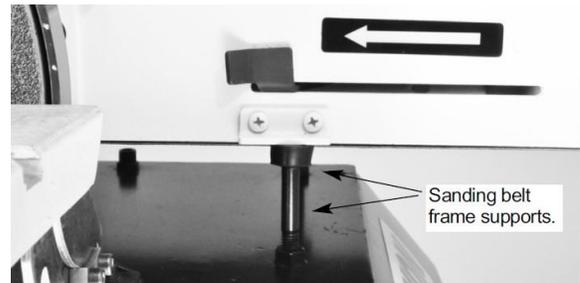

Figure 11
3. In the horizontal position, there are two vertical padded set screws that support the sanding belt frame. These should be checked and adjusted, if necessary, to make sure they both touch the sanding belt frame supports. These screws will help relieve pressure on the casting during work. See Figure 11.